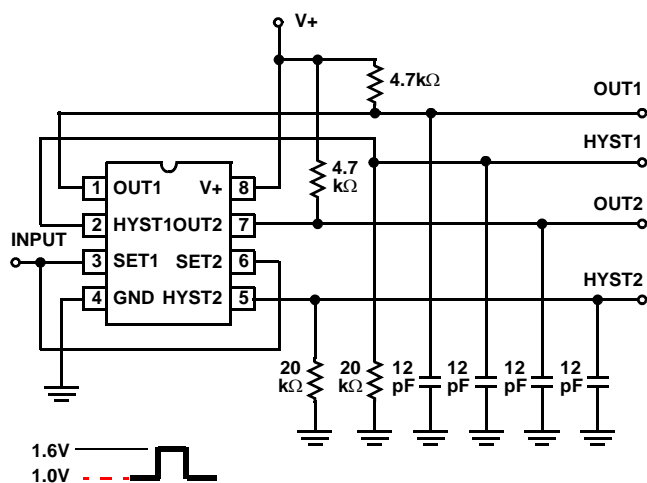

FIGURE 7. TEST CIRCUITS
The specifications below are applicable to both the ICL7665S and ICL7665SA. V+ = 5V, TA = 25°C, Test Circuit Figure 7. Unless Otherwise Specified
**Electrical Specifications** The specifications below are applicable to both the ICL7665S and ICL7665SA.  $V_+ = 5V$ ,  $T_A = 25^\circ C$ , Test Circuit Figure 7. Unless Otherwise Specified **(Continued)**